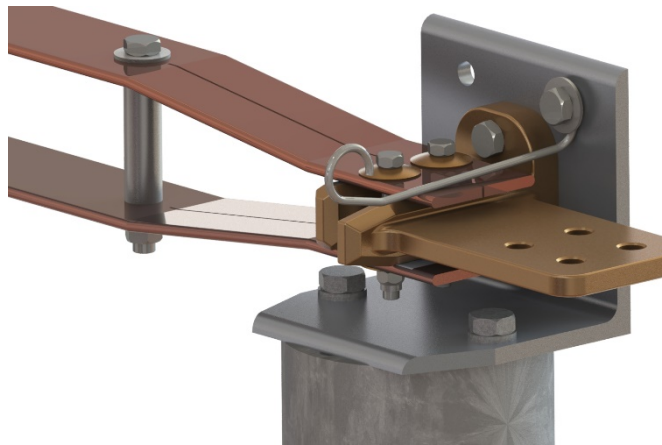

Figure 7: Adjusting Arcing Horn
- Readjustment of the arcing horn can be done by grasping it firmly and bending until the action described above is achieved. The arcing horns should have light pressure, not forcing the blade into place when closing. See Figure 7.